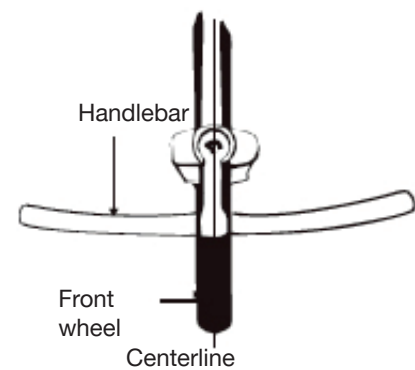

Fig. 10 Handlebar and Stem Assembly
2. Align the stem with the front wheel (see Fig. 10). Tighten the expansion bolt securely with an adjustable wrench. Note: Some models may require a 6 mm Allen wrench. (Torque: 18 N.m)
6. Make sure your handlebar and stem are properly tightened before riding. The handlebar should not rotate in the stem. When reaching over and holding the front wheel between your knees, the handlebar should not be able to twist when applying horizontal pressure (See Fig. 10).